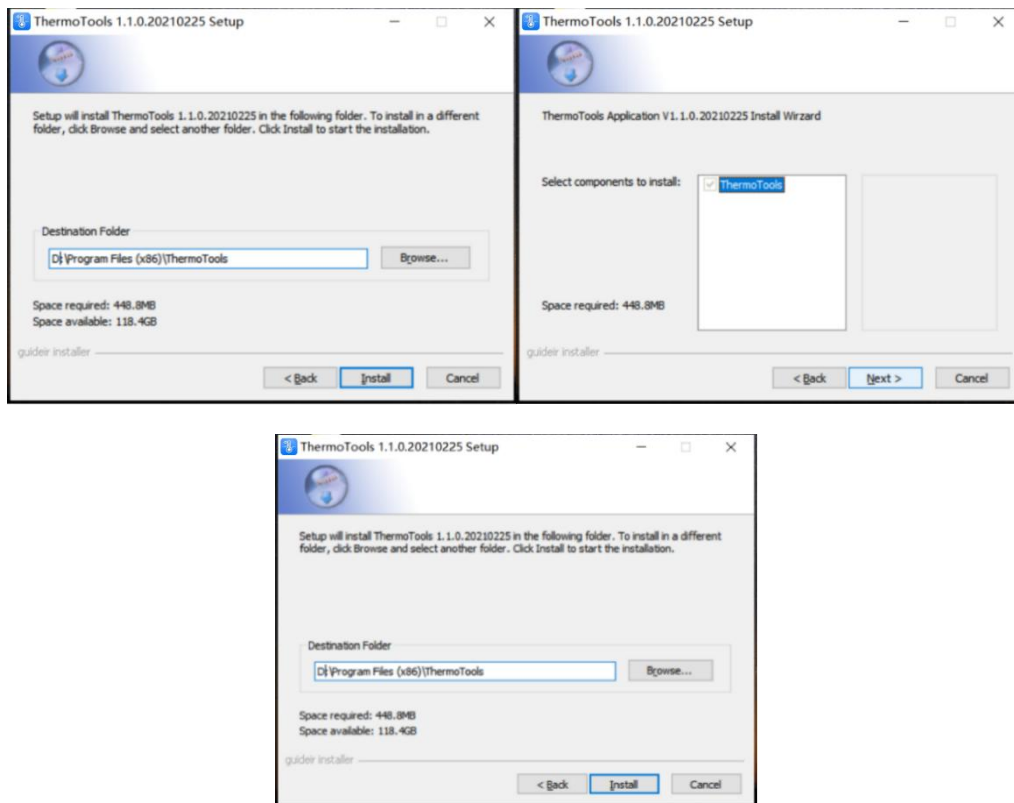

Figure 2-4 Installation Path Selection
4. Clicking “Back” will return to the installation wizard interface. Click “I Accept” to enter the installation path selection interface, as shown in Figure 2-4. Clicking “Cancel” will end the installation.